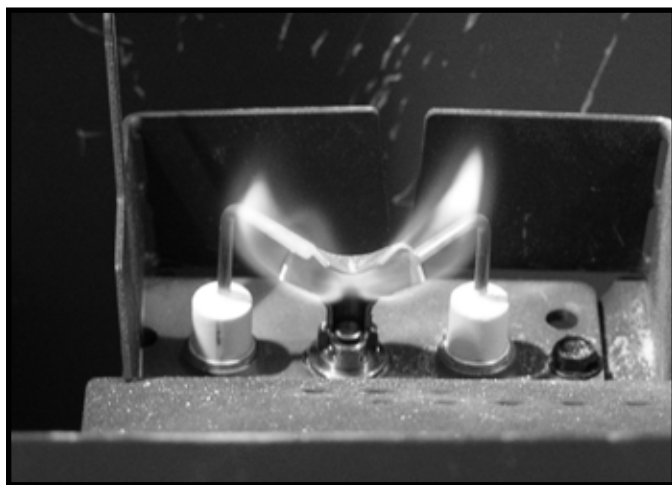

Figure 4.3 IFT Pilot Flame Patterns
- Inspect pilot flame pattern and strength. See Figure 4.3 for proper pilot flame pattern. Clean or replace orifice spud as necessary.